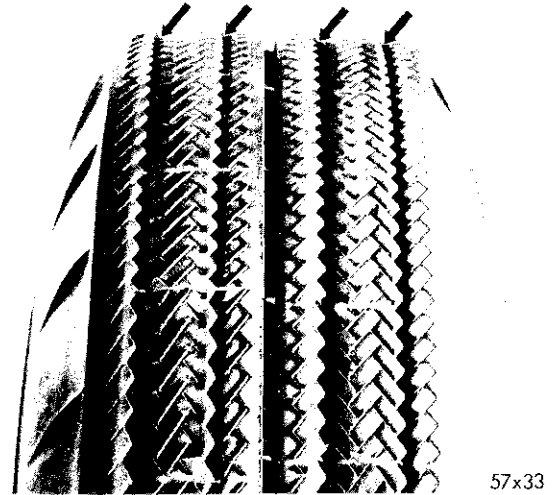

Fig. 4—Toe-In Wear
3. **SHARP RIB EDGES (Fig. 4)**